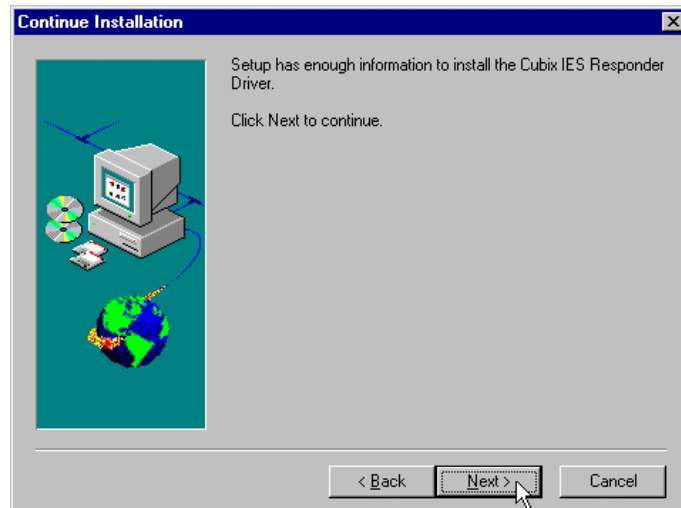

Figure 46 – Continue Installation dialog box
21. The **CONTINUE INSTALLATION** dialog box appears next. This dialog box informs you that there is enough information to install the **IES RESPONDER**. Click **NEXT** to continue. See Figure 46.